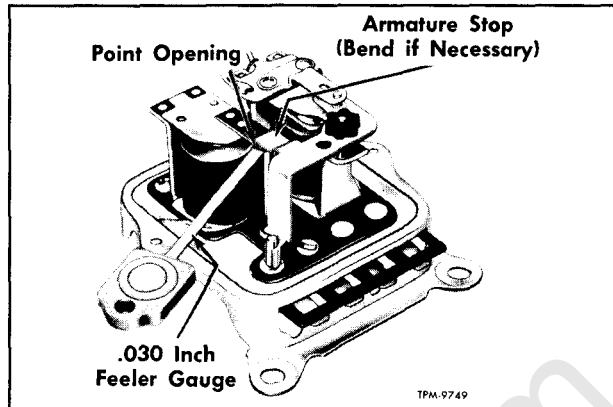

Figure 21—Adjusting Field Relay Contact Points (Two-Unit Type Regulator)
1. Referring to figure 21, insert an 0.030-inch